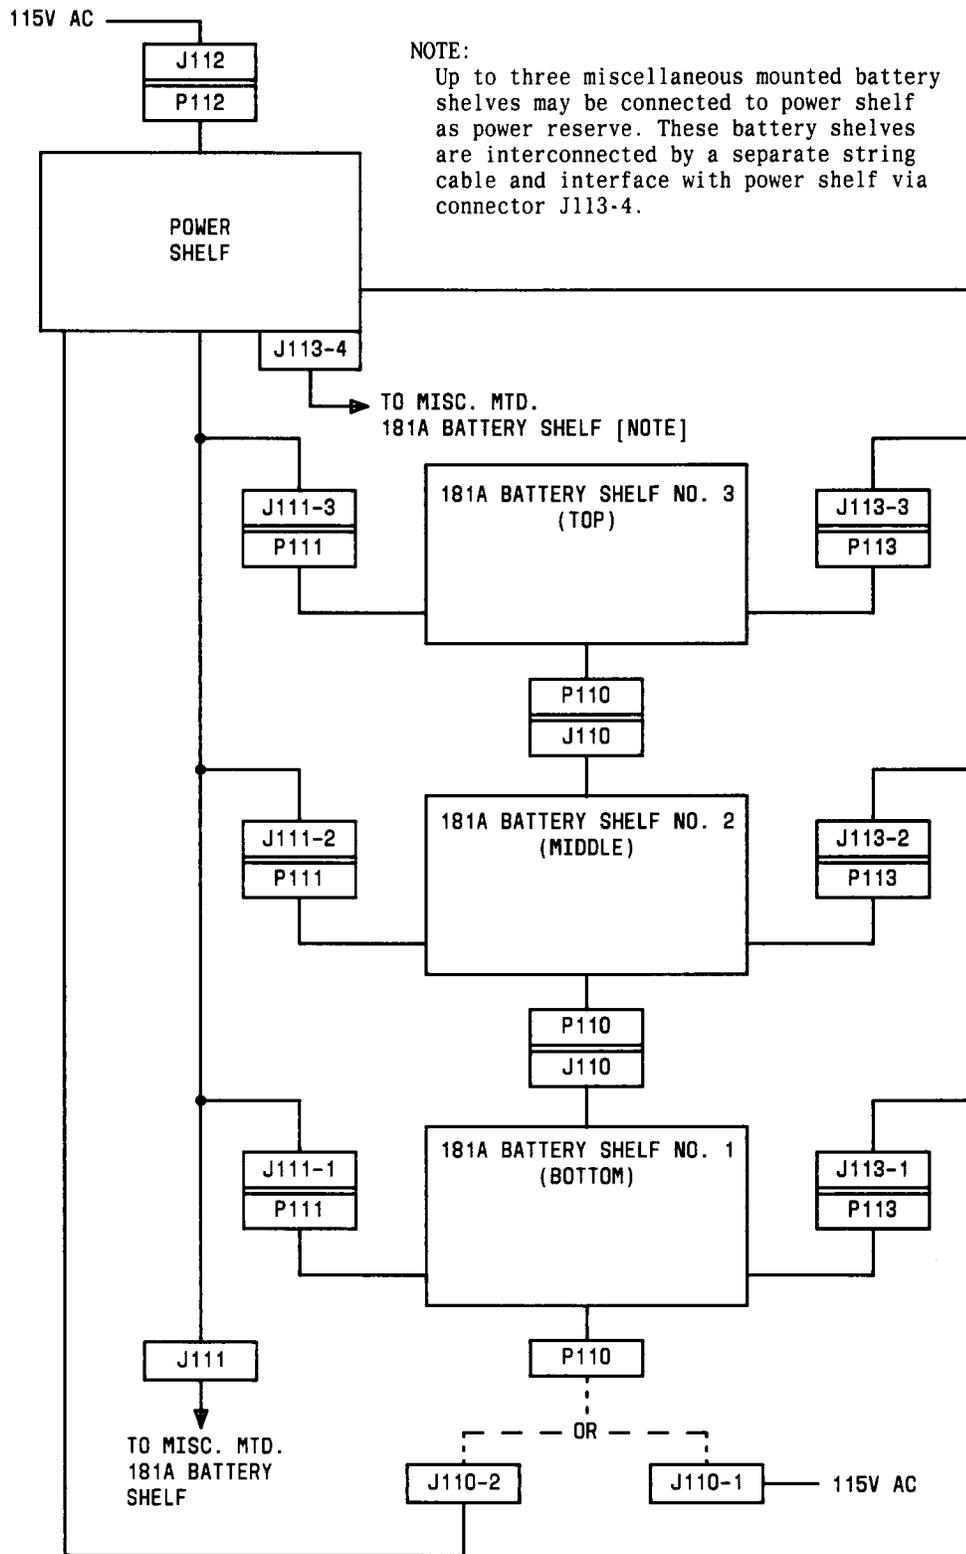

Fig. 1—Power and Battery Shelf Connectors
5. Verify that power shelf power cord plug (P112) is connected to ac power cord jack (Figure 1).
6. Verify that connectors on power shelf are connected to appropriate battery shelf lead connectors (as required) per Figure 1.
7. Ensure that power shelf connectors are not connected to battery shelf lead connectors for battery shelves not equipped (Figure 1).